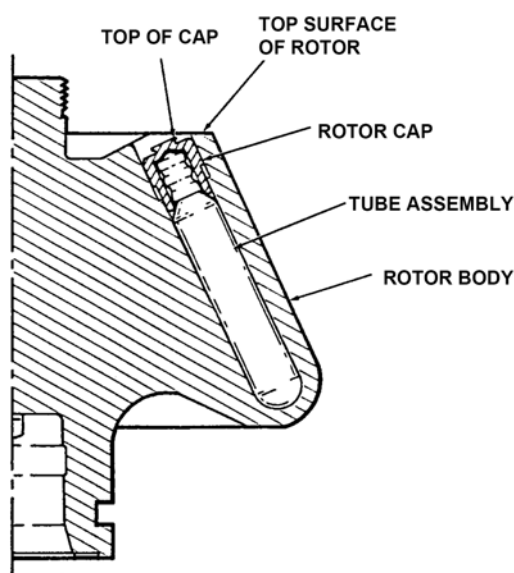

Figure 2-3. Properly Seated Rotor Cap
2. Place a rotor cap, PN 03091 into each tube compartment that contains a filled tube. Push the rotor cap into the tube compartment until it is properly seated; when properly seated, the edge of the cap will be positioned slightly below the top of the outer edge of the tube compartment (see figure 2-3).